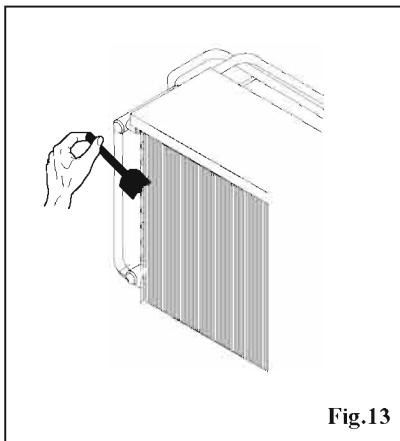

Fig.13
Dust and dirt on the air condenser blades reduce refrigerating efficiency or may even prevent refrigeration and the compressor: the condenser must therefore be cleaned regularly (every 20-30 days), as indicated in figure 13. To clean, proceed as follows:
- Clean the dust and dirt from the condenser blades with a brush or paint brush or vacuum cleaner (fig.13).